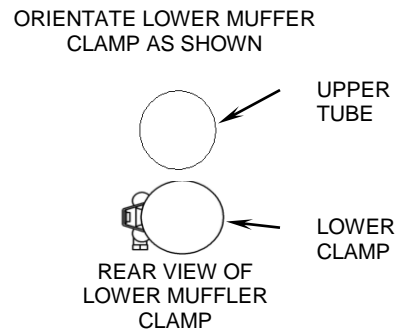

FIGURE 3
6. Install the stock O₂ sensor into the oxygen sensor bung on the supplied rear headpipe/muffler assembly, tighten it securely. Slide the supplied 27-61MSC clamp onto the lower muffler tube. Refer to Figure 3 for alignment.